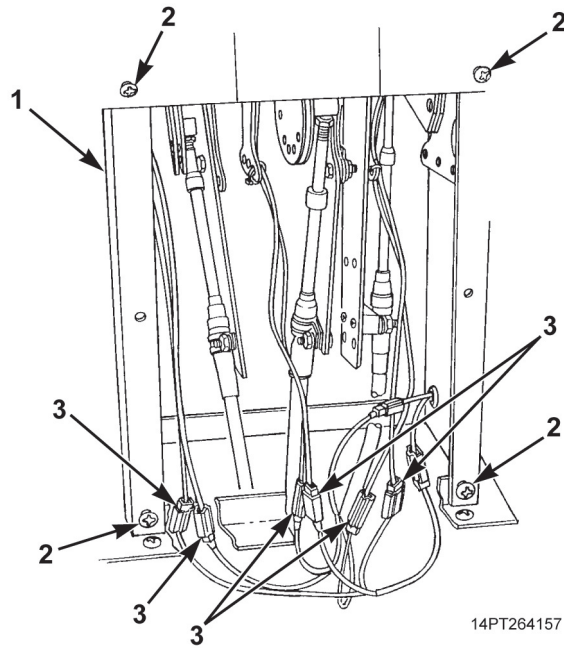

Figure 13. Connector Installation.
12. Connect six connectors (Figure 13, Item 3) to shift tower jumper harness connectors.
13. Remove two top and two bottom screws (Figure 13, Item 2) on front and rear of shift tower (Figure 13, Item 1).